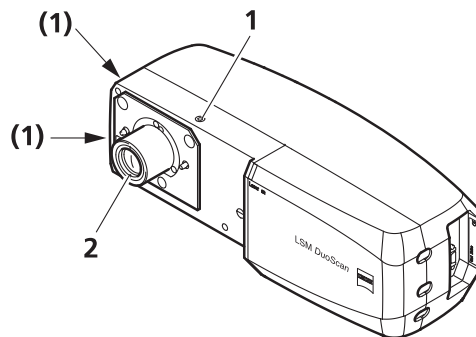

Fig. 1-22 Fastening screws and connections on LSM DuoScan
- Use the three fastening screws (Fig. 1-22/1) to attach or detach the LSM DuoScan to or from the microscope stand.